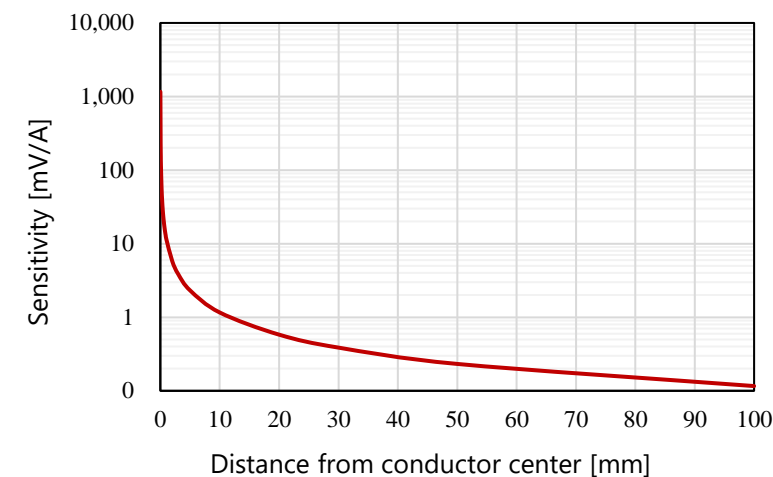

Fig2 Sensitivity graph
• As shown in ③, when the sensing part is at a distance from the conductor, the sensitivity becomes weaker according to the graph in Figure 2.
• Positive value is output when placed as in ① for the current flowing in the conductor.